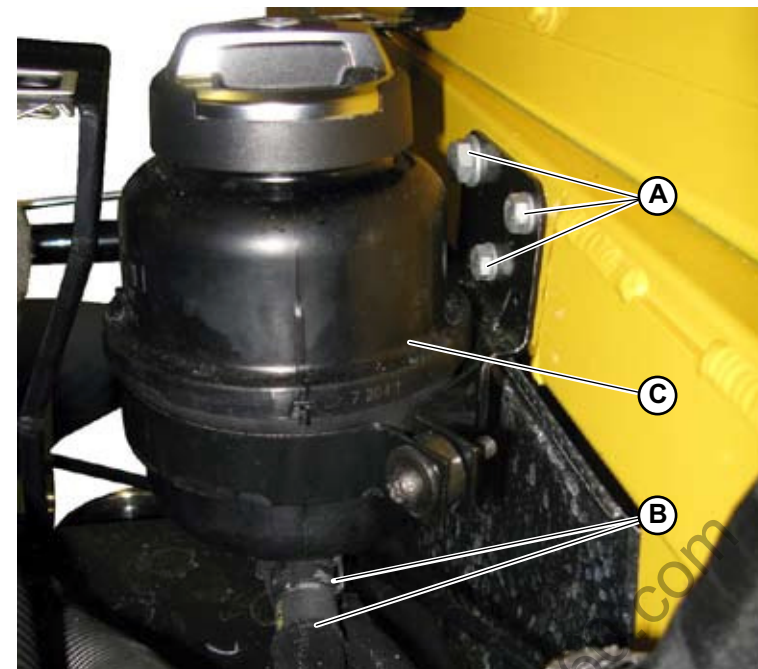

Fig.1
- Loosen the 3 screws (A-Fig.1) that secure the bracket to the chassis.
- Remove the 2 clamps (B-Fig.1) and disconnect the relevant oil pipes.
- Remove the power steering tank (C-Fig.1).